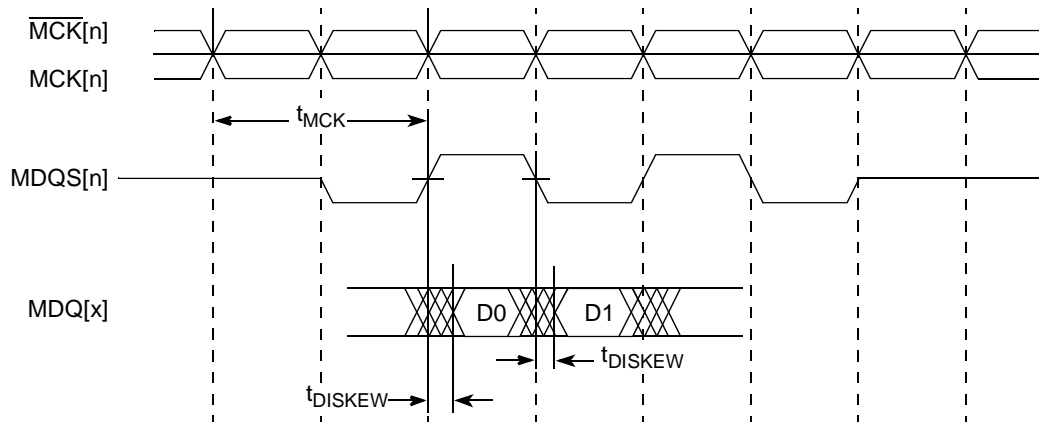

Figure 3. DDR SDRAM Input Timing Diagram ( $t_{DISKEW}$ )
- The amount of skew that can be tolerated from MDQS to a corresponding MDQ signal is called  $t_{DISKEW}$ . This can be determined by the following equation:  $t_{DISKEW} = \pm (T/4 - \text{abs}(t_{CISKEW}))$ , where T is the clock period and  $\text{abs}(t_{CISKEW})$  is the absolute value of  $t_{CISKEW}$ . See Figure 3.
Figure 3 shows the DDR SDRAM input timing diagram.